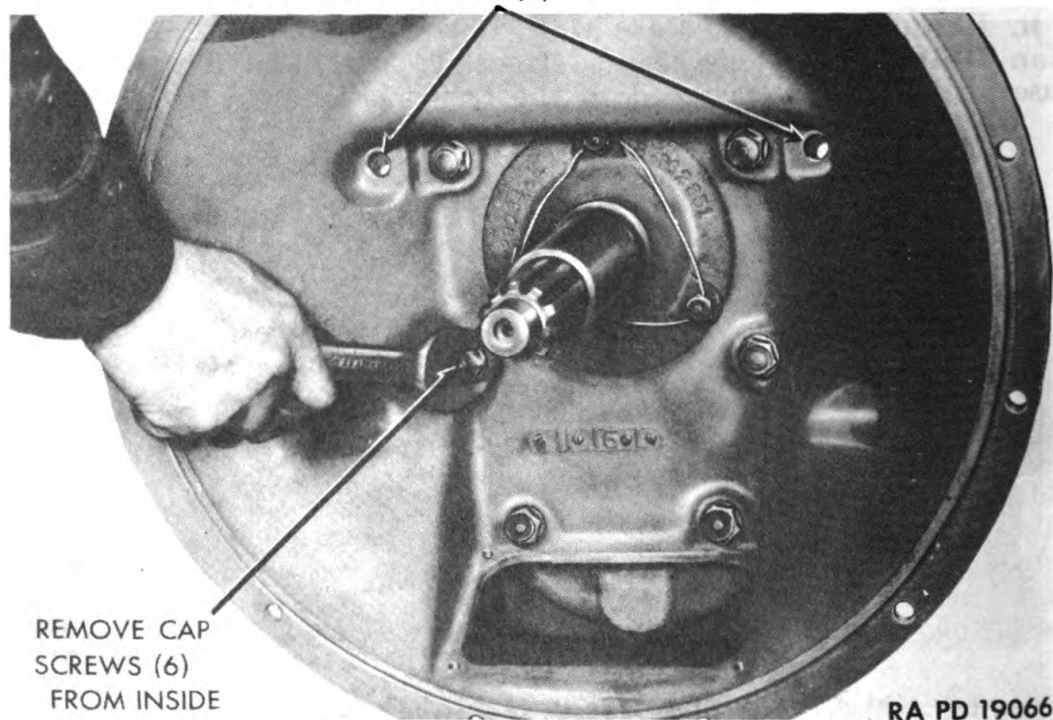

Figure 144 — Removing Transmission Bell Housing Cap Screws
j. **Remove Transmission Bell Housing.** Remove six cap screws from inside of transmission bell housing or clutch housing (fig. 144). Remove two cap screws from outside, one at upper right and one at upper left front corner of transmission case. Tap clutch housing lightly with lead hammer or wood block to remove housing from transmission main drive gear bearing and retainer, which acts as a pilot to center clutch housing on transmission case. Remove housing and gasket from transmission case.